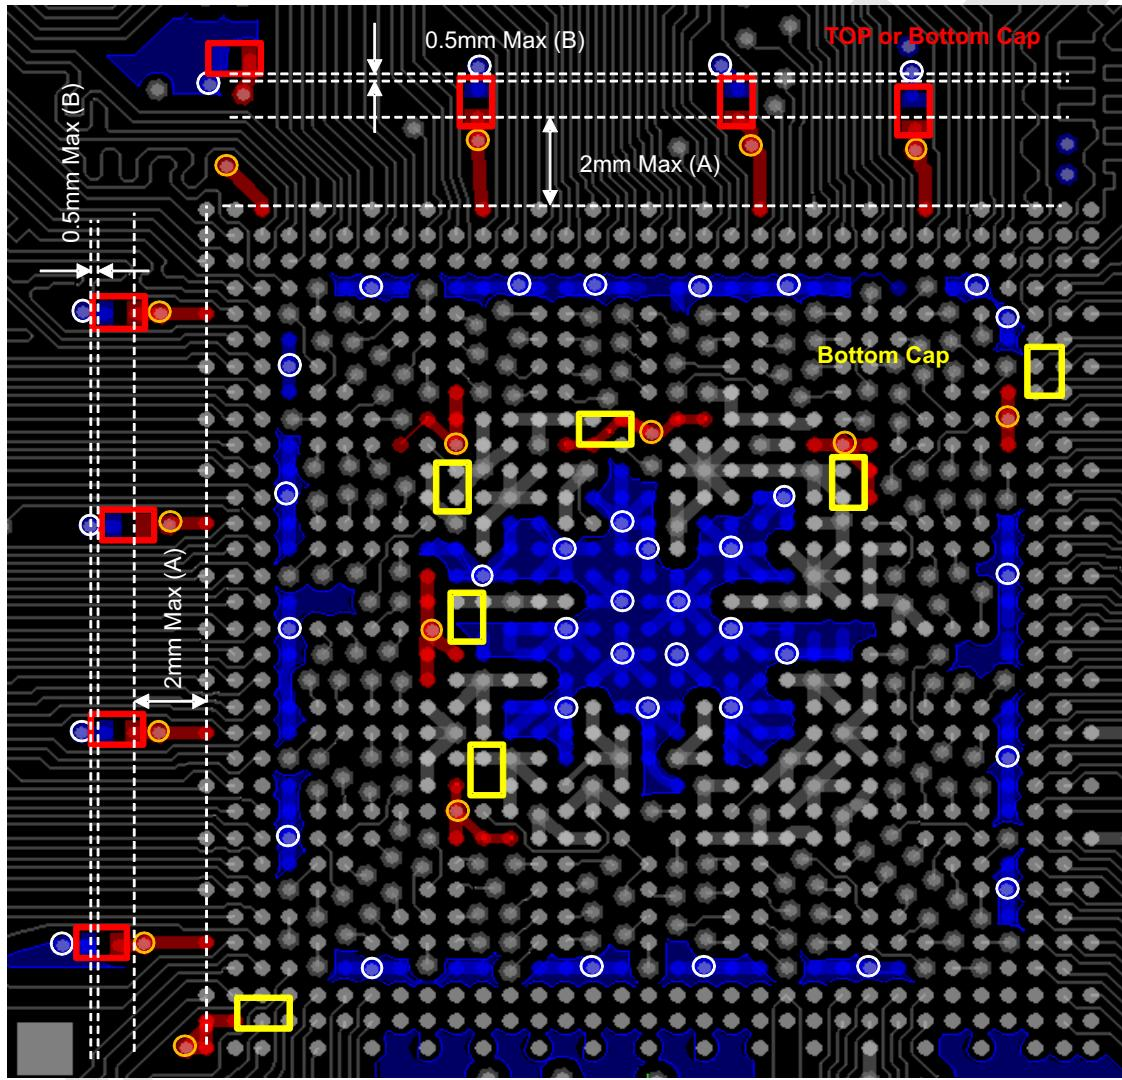

Figure 8-18. Critical Via and Decoupling Capacitor Connection
Layer 2 and layer 5 are planes. They are assigned to GND and VDD-IO/DDR3 supply (1.35 V). The OMAP5432 GND and VDD-IO BGA must be connected to the plane. As illustrated in Figure 8-18, BGAs are depopulated so that critical via can be placed. GND/VDD-IO vias must be placed as mentioned in Figure 8-18. VDD-IO BGA must be connected to the decoupling capacitor by 0.25-mm width line at maximum length of 2 mm (A). The GND/VDD-IO vias must be located next to the decoupling capacitor. The maximum pad-to-pad spacing must be less than 0.5 mm (B). The 7 bottom decoupling capacitors must be connected between VDD-IO vias and GND vias. The maximum VDD-GND loop must be less than 2.5 mm.